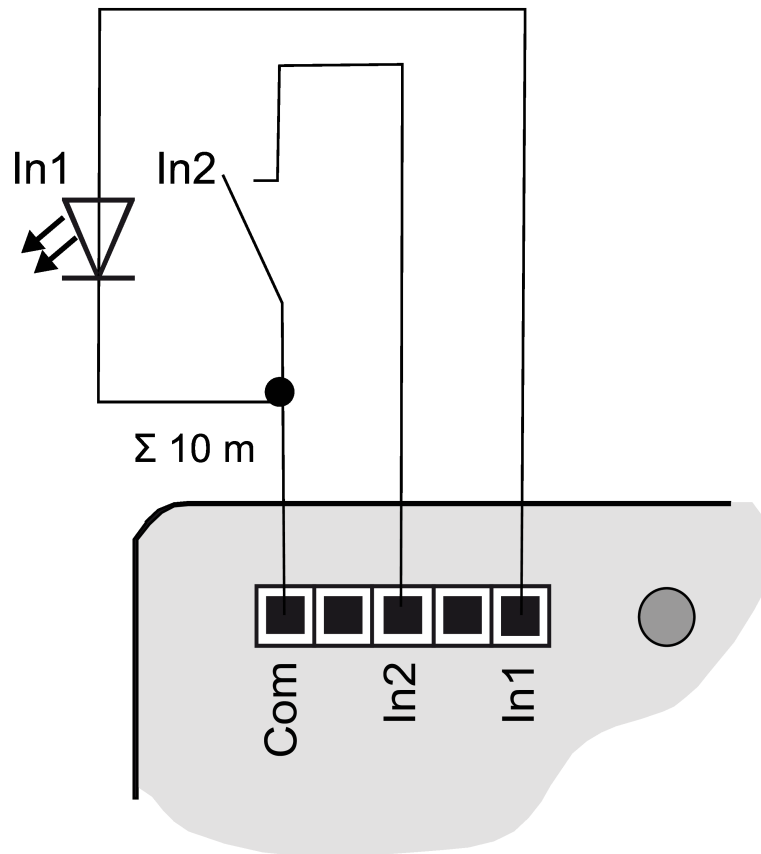
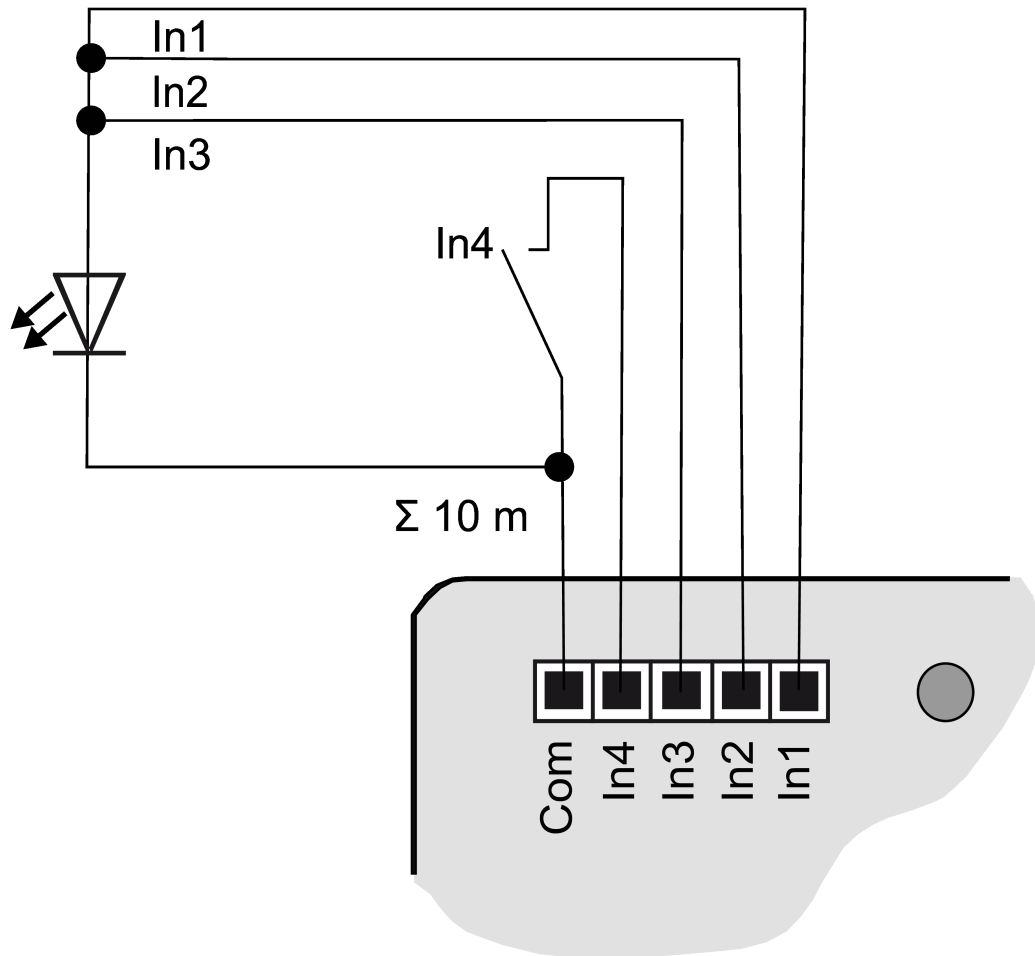

Figure 5: Connection example: push-button interface 2-gang
Figure 7: Connection example with outputs switched in parallel
- Connect push-buttons, switches, contacts or LED to enclosed connecting cables (4) according to the connection examples; (see figure 5) to (see figure 7). The connection examples show the use with inputs and outputs.
- i** To increase the output current, outputs can also be switched parallel to each other with the same parameterization; in the example here, (see figure 7) **In1-In3** are switched in parallel.